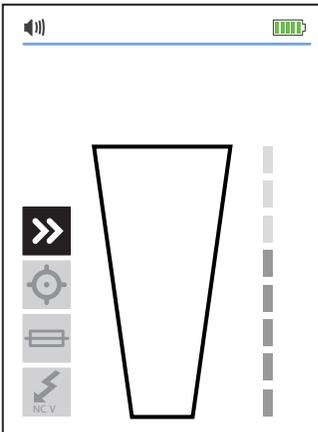
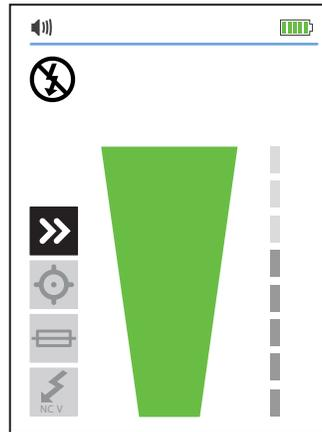

Figure 3.1c: Signal not detected
Figure 3.1d: Signal detected
3. For best results while tracing Energized wires, align groove on the Tip Sensor with wire direction as shown in Figure 3.1c and Figure 3.1d. Signal may be not detected if not properly aligned. To verify wire direction, periodically rotate the Receiver 90 degrees. Signal strength will be the highest when wire is aligned with the Tip Sensor groove. Depending on the detected signal, the Receiver automatically switches to either Energized (⚡) or De-energized (⊗) mode, and displays this information on the LCD. No manual setup is necessary.